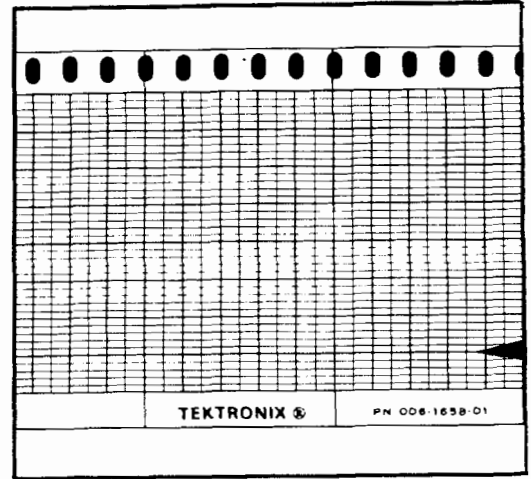

Fig. 4-2. Stylus Position Adjusted.
- d. Adjust STYLUS POSITION control so the baseline position on the chart trace matches the CRT baseline (see Fig.4-2).